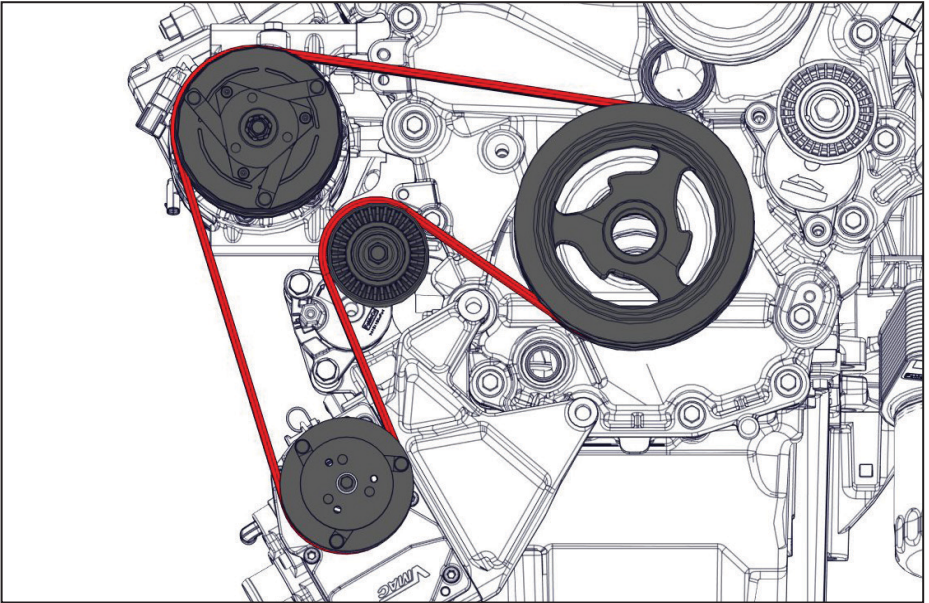

Figure 16 — Route VMAC belt
- Install and tension the supplied 4 rib VMAC Compressor belt, ensuring that it is centered on the compressor clutch (Figure 16).